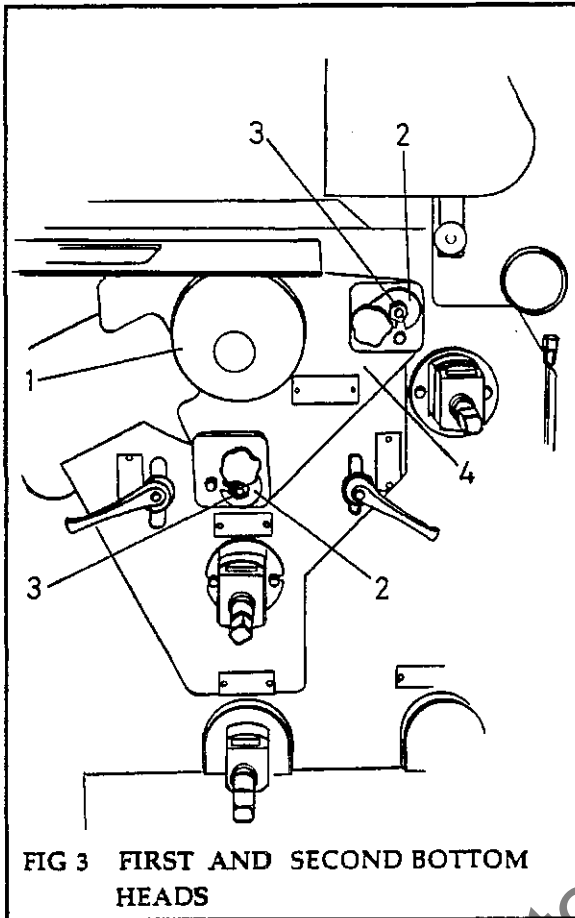

FIG 3 FIRST AND SECOND BOTTOM HEADS
FIRST AND SECOND BOTTOM HEAD (Fig. 3)
- (4) If necessary, reset the cutter height as follows: (Fig 3)
- (5) Place a straightedge against the outfeed fence and check the fence and edge reference cutter are in line (if fitted), ie. just touching the straightedge, (fig 2). Adjust the fence. If necessary, adjust the cutter spindle laterally as follows(see inset fig 3):
- a. Release the spindle barrel lock (4) at the rear of the head. Depressurise the outboard bearing. Re-position the spindle using handscrew (3).
- b. Retighten the barrel lock (4) and re-pressurise outboard bearing.